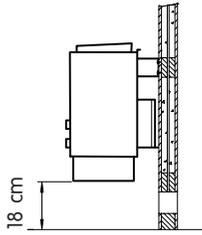

Fig. 5
- Secure the sauna heating unit to the wall mounting bracket by inserting a sheet metal screw through the hole positioned at the rear edge of the heater (Fig. 5 and 6).